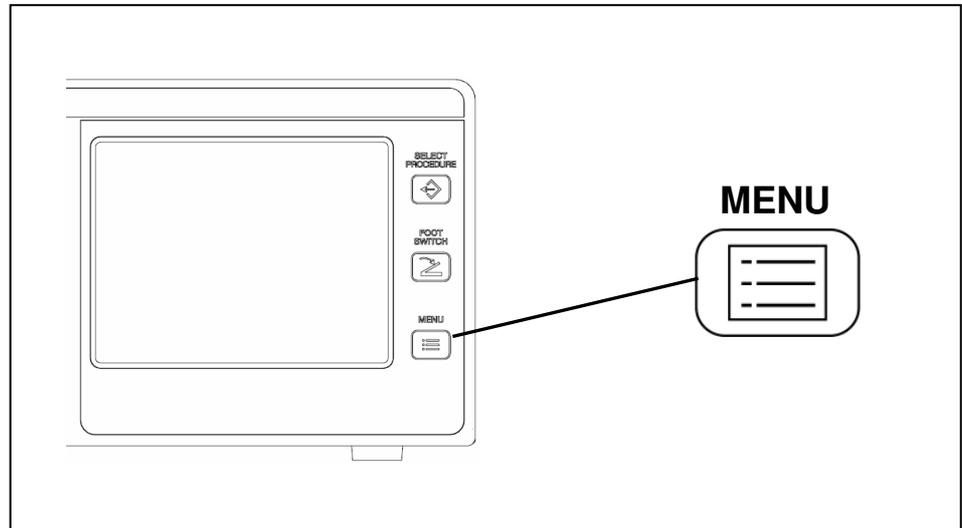

Figure 4.5
1. Press the “MENU push button” on the right side of the touch-screen as shown in figure 4.5.